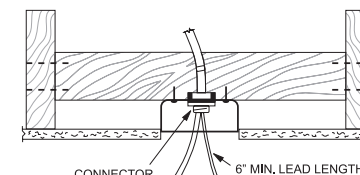

Figure 3
- Bring electrical cable into the outlet box and attach with an approved connector. Make certain that wiring meets all national and local electrical codes. Wire leads should extend at least 6" beyond outlet box for ease in making connections. See Figure 3.